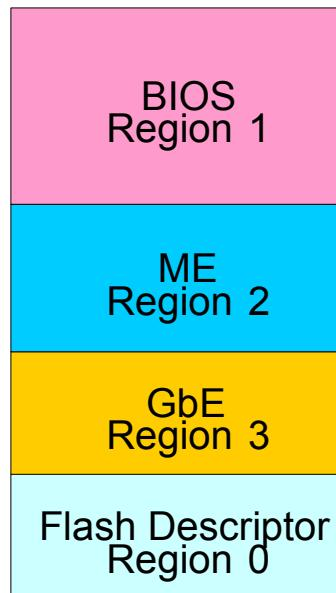

Figure 1. LAN NVM Regions
The LAN NVM shares space on an SPI Flash device (or devices) along with the BIOS, Manageability Firmware, and a Flash Descriptor Region. It is programmed through the ICH9M. This combined image is shown in Figure 1. The Flash Descriptor Region is used to define vendor specific information and the location, allocated space, and read and write permissions for each region. The Manageability (ME) Region contains the code and configuration data for ME functions such as Intel® Active Management Technology, ASF, and Advanced Fan Speed Control. The system BIOS is contained in the BIOS Region. The ME Region and BIOS Region are beyond the scope of this document and a more detailed explanation of these areas can be found in the *Intel® I/O Controller Hub 9 (ICH9M) Family External Design Specification (ICH9M EDS)*. This document describes the LAN image contained in the Gigabit Ethernet (GbE) region.